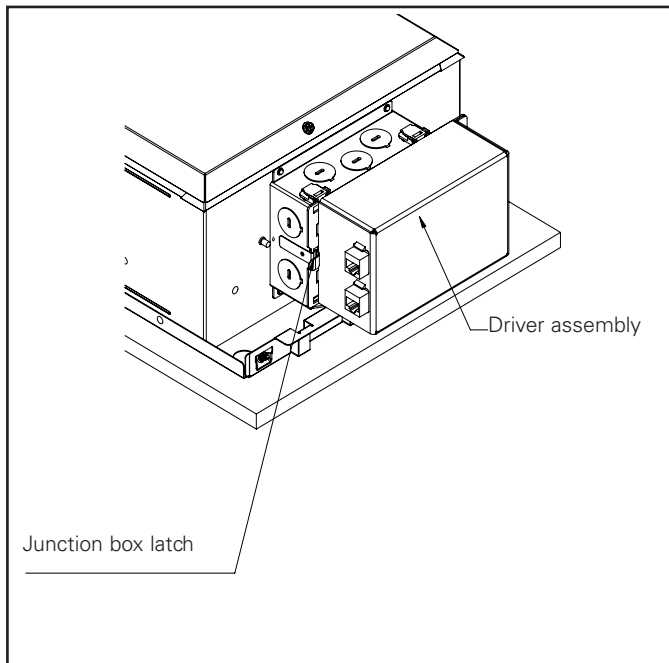

Figure 25.
1. Press the Junction Box Latch to remove the driver assembly (see Figure 25)